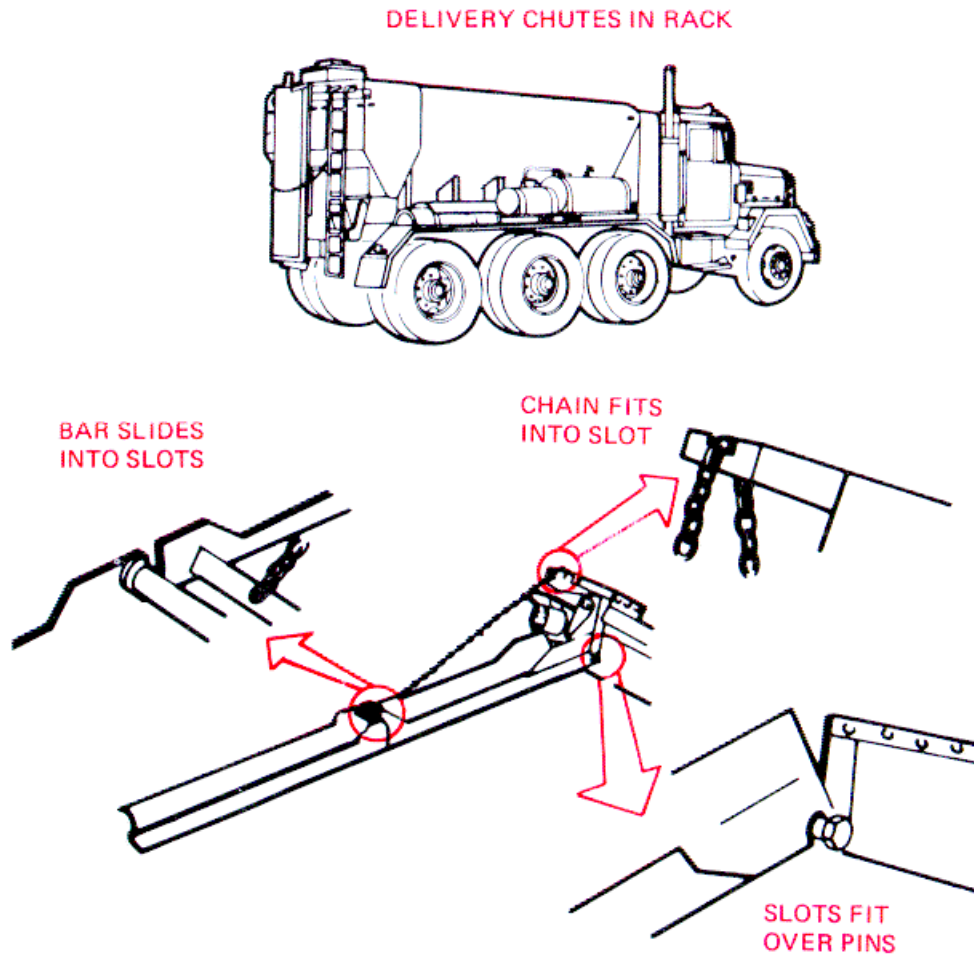

Figure 2-44. Delivery Chutes.
- g. Remove and Stow the Delivery Chutes. (See fig. 2-44.)